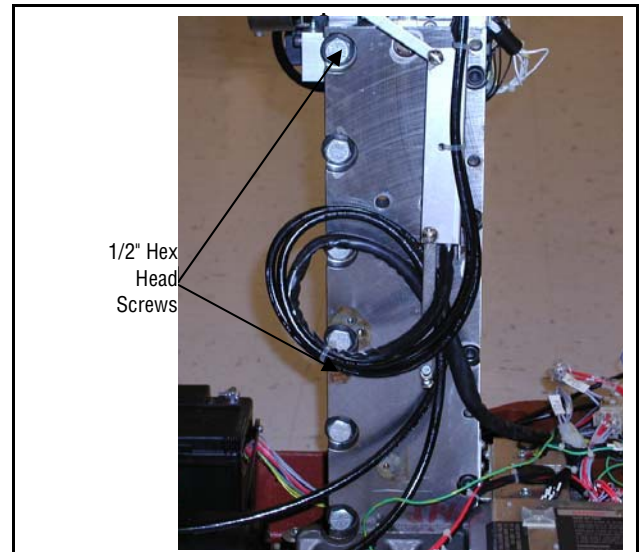

Figure 7-10. Left Guide Shaft Screws
7. Locate seven 1/2" hex head screws securing left guide shaft (see Figure 7-10). Break loose and snug one at a time.